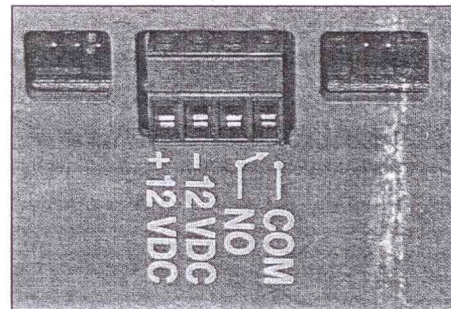

Figure 11
**Note:** If remote alarm detection is desired, connection to the alarm circuit can be made using the normally open contacts provided on the terminal strip. These contacts are rated for 150mA. Do not exceed this amp range or damage to the Control Unit can occur. Exceeding the current rating will void the warranty. **Figure 11**